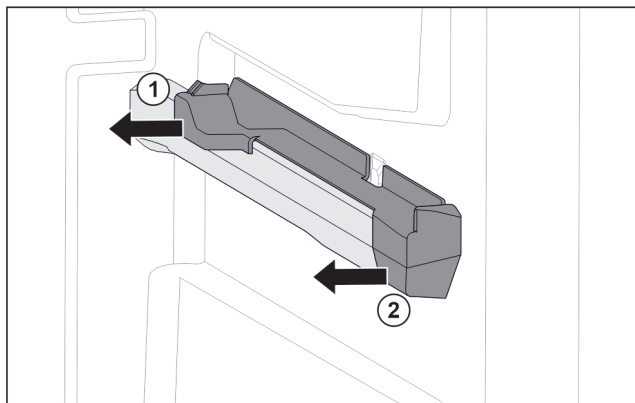

Fig. 74 Attachment on the right moulded rib
- ▶ Pull off attachment at the back sideways. Fig. 74 (1)
- ▶ Pull off attachment at the front sideways. Fig. 74 (2)